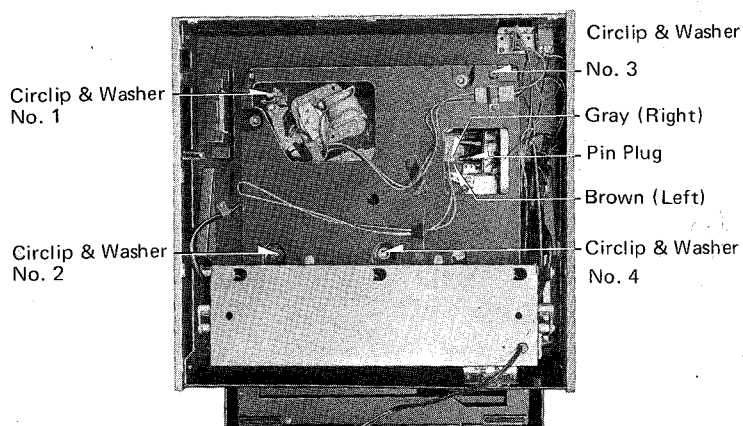

Fig. 7 BOTTOM VIEW (BOTTOM COVER OPEN)
2. Unplug receptacle housing from plug housing, as shown in Fig. 7.
3. Unplug two pin plugs from changer jacks, as shown in Fig. 7.
4. Remove four (4) changer mounting circlips and washers, as shown in Fig. 7.
5. Remove lead holder from chassis as shown in Fig. 7.